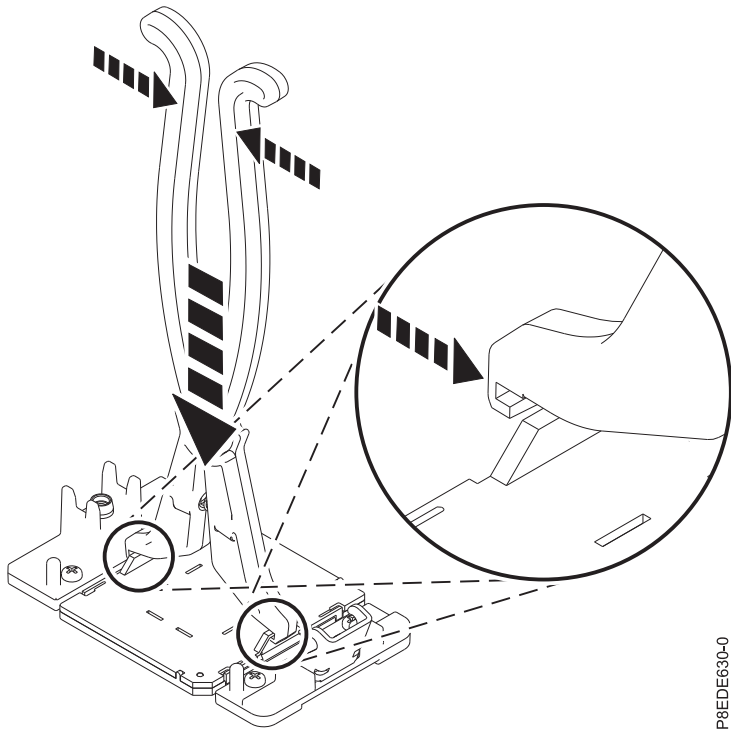

Figure 31. Removing the system processor socket cover
- a. Grasp the socket cover tabs with the supplied cover removal tool (part number 00FX605). Squeeze the removal tool handles. Then, lift the cover straight up, as shown in Figure 31 on page 29.